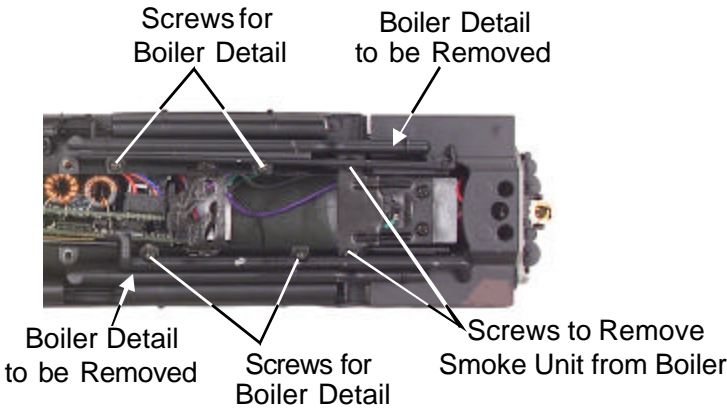
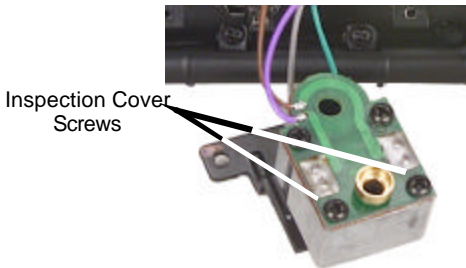
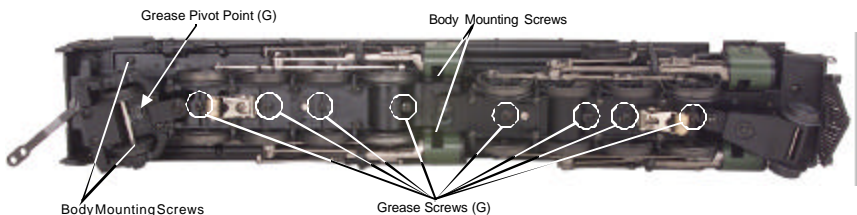
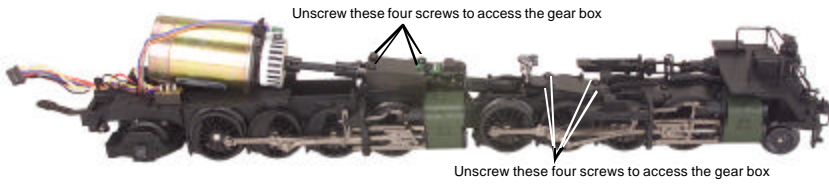

Figure 5a. Accessing the Smoke Unit
Figure 5b. Inspecting the Smoke Unit
Figure 7a. Location of Body Mount Screws and Greasing Points on the Locomotive
Figure 7b. Screws to remove to access the gear box.
If you experience poor or no smoke output when the smoke unit is on and has fluid, check the wick to see if it has become hard, blackened, and unabsorbent around the heating element. Remove the boiler shell (by removing the body mounting screws shown in Fig. 7a on pg. 12), the two pieces of boiler detail (these need to be removed in order to access the two screws that allow the smoke unit to come free from the boiler shell) as shown in figure 5a, inspection cover screws, and inspection cover (Fig. 5b). Inspect the wick; if it is darkly discolored and hard, it should be replaced.
2. Remove the boiler by removing the body mounting screws shown in Fig. 7a
3. Remove the Phillips screw (marked “GREASE”) located at each set of wheels (Fig. 7a) and the gearbox cover screws (Fig. 7b).
You should also grease the leading and trailing locomotive truck tongues to enhance their ability to slide on the chassis. Follow the grease points shown on Fig. 7a.
1. Remove the boiler from its chassis as shown in Fig. 7a on pg. 12
2. Remove the smoke unit from the boiler by removing the screws as shown in Fig 5a on pg. 11.